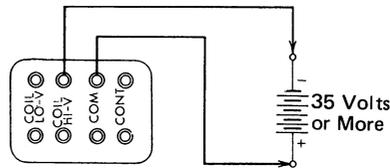

Figure 4-17. Coil High-Voltage Connection
3. Thirty-five volts or more dc is applied between COIL HI-V and COM, with the COIL HI-V lead on the negative side of the circuit and the COM on the positive side of the circuit. This is the high-voltage connection (Figure 4-17).